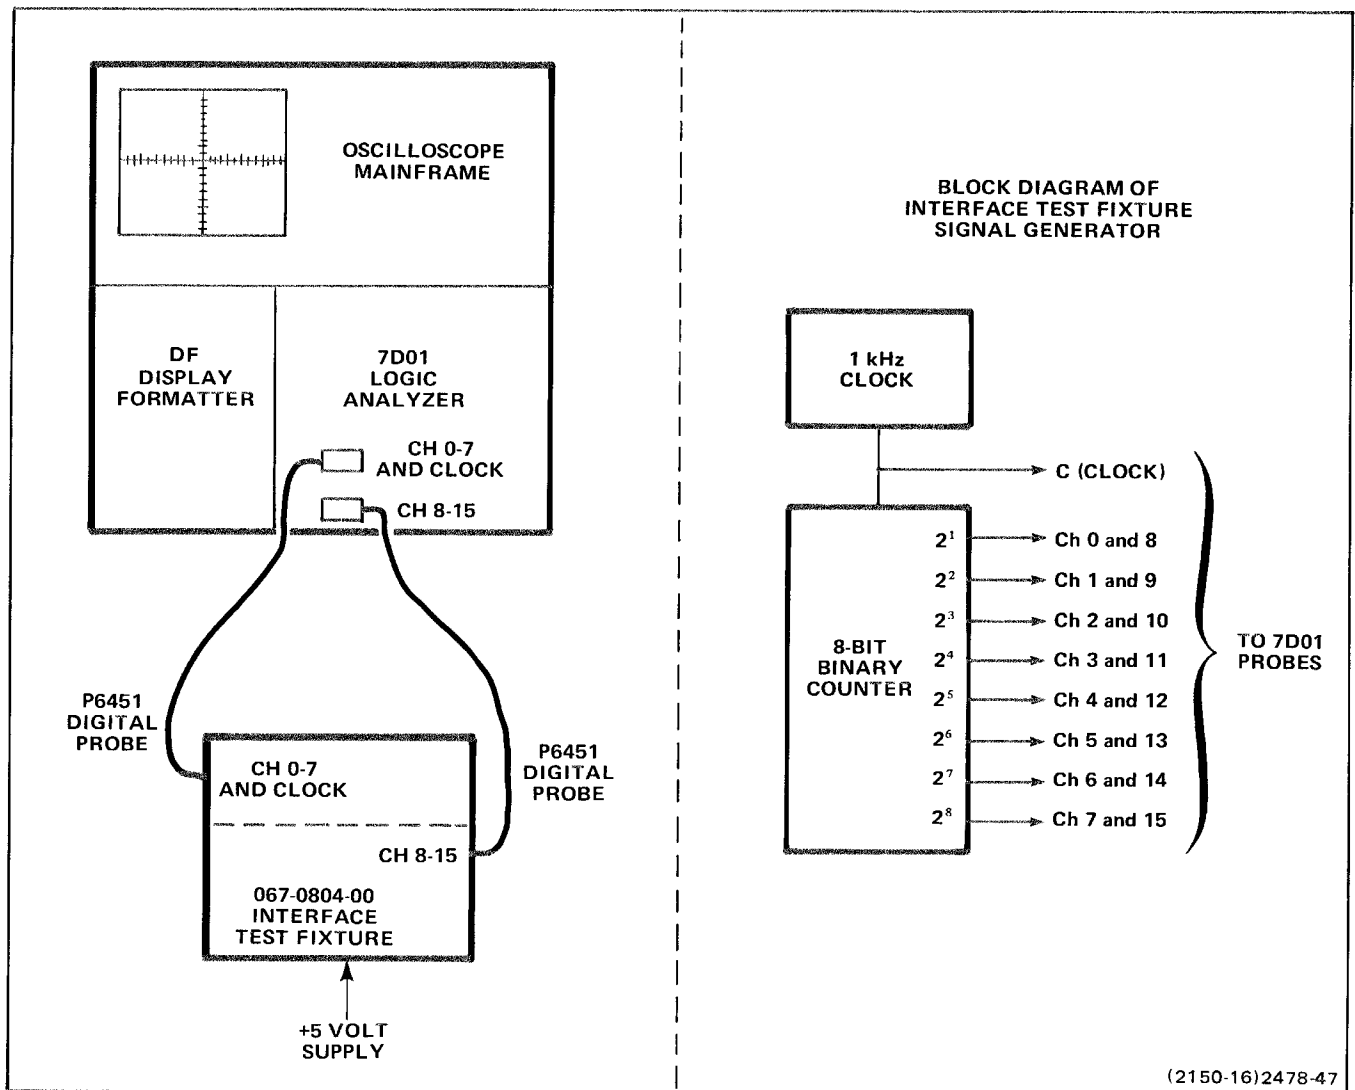

Figure 7-2. Test setup for Performance Check and Adjustment Procedure.
| 3. TTL Signal Source                            | Clock and 8-bit counter. Clock frequency; approximately 1 kilohertz.         | Provides standard input signals to 7D01.  | a. TEKTRONIX 067-0804-00 TEST FIXTURE.b. Circuit as shown in Figure 7-2.                                  |
3. Connect the Interface Test Fixture to the 7D01 as shown in Figure 7-2.